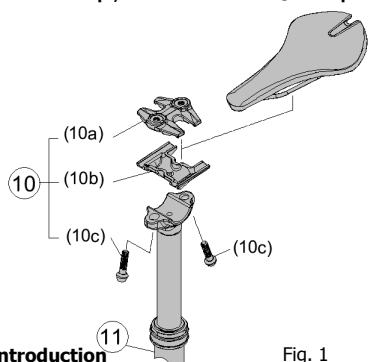
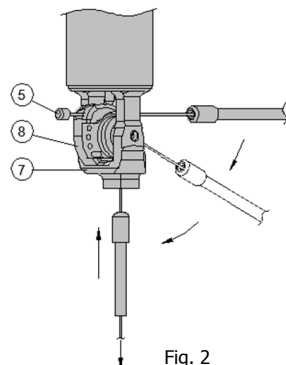
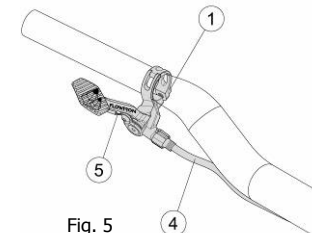

Fig. 1
Fig. 2
Fig. 5
1. Install Remote lever ① on left side of handlebar. Use 3mm hex wrench tighten clamp bolt to 60 kgf.cm / 6 Nm / 53 in.lbs. (Fig. 5)
2. Feed Cable Housing ④ through bike frame and up and out the seatube. Install a housing ferrule on end.
3. Feed Steel cable ⑤ through Cam ⑧ and insert into ② housing ferrule and Cable housing ④. Seat housing ferrule into bottom of Actuator ⑦. Pull on cable end to remove cable slack. (Fig. 2)
4. Install Seatpost ⑪ into frame at approximately the correct max saddle height. Turn handlebars 90 degrees and mark where to cut housing. Correct length is when the housing is tight but not binding in this position (you may want extra length for saddle height adjustment). (Fig. 1)
6. Cut Cable Housing ④ at mark and install housing ferrule on end.
7. Seat housing ferrule into Actuator ⑦ and reinstall cable. (Fig. 2)
8. Insert seat post ⑪ into frame. Note: Seat post must be inserted to minimum depth or farther. (Fig. 1)